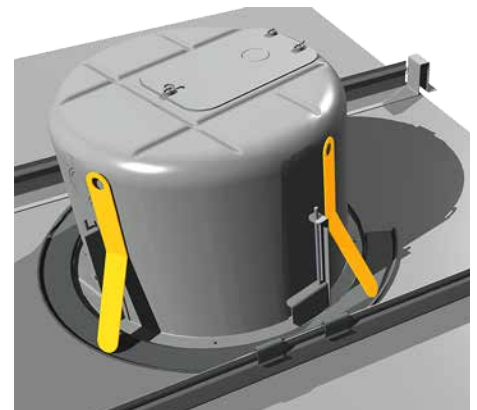

Figure 9. Highlighted **Drop-Stop™** tabs snap out over C-ring support (Temporarily holds can in place even before you secure it with the steel mounting clamps)
4. Slide the back can into the hole, aligning it so that its input terminal block OR its knockout strain relief locations are consistent with the wiring distribution you have mapped out. When you press the can fully into place, the four spring-loaded **Drop-Stop™** tabs will spread atop the C-ring, and you may hear them "snap" into position; you can now continue without having to hold the can in place (Figure 9).
2. Slide the back can into the hole. When you press the can fully into place, the four **Drop-Stop** installation assist tabs will spread atop the C-ring, and you may hear them "snap" into position; you can now continue without having to hold the back can in place. The illustration in Figure 9 shows how the **Drop-Stop** tabs work, and is equally applicable with C-ring Support Plate or New Construction Bracket installations in drywall ceilings.